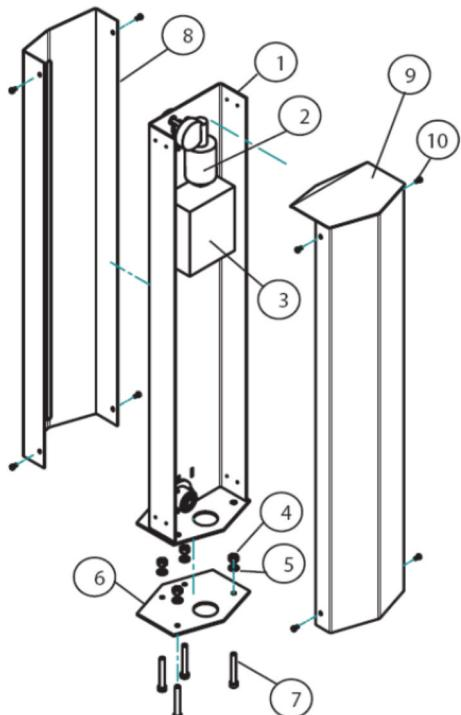
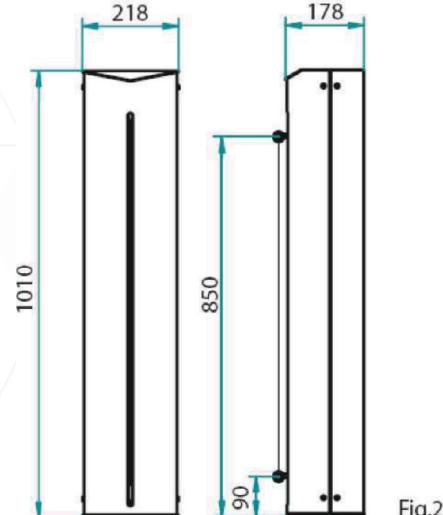

Fig.4
Fig.2
### 7.2. Installation of the Column (Fig.1, Fig.2, Fig.4)
5. Unscrew the 8 screws [10] take off the frontal [8] and the rear cover [9] of the column (Fig. 4 )